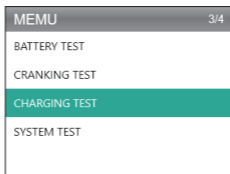

Figure 4.4.1
1. Select Charging Test and press [OK]. (See Figure 4.4.1)